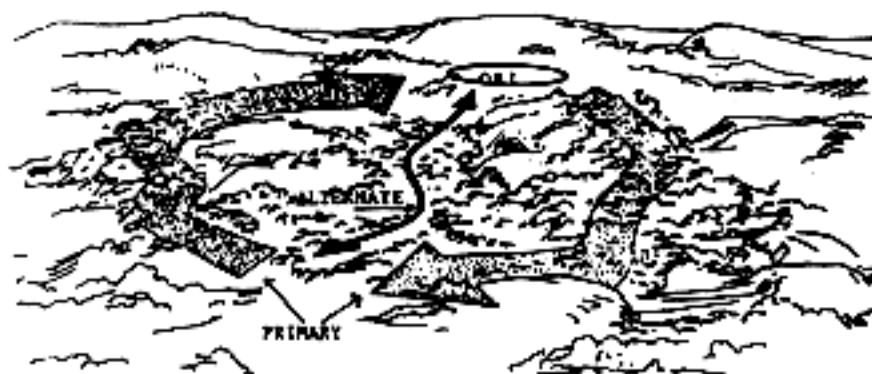

Figure 5-1. Primary and alternate routes.
(1) Essential and supporting tasks. The leader ensures that he has assigned all essential tasks to be performed on the objective, at rally points, at danger areas, at security or surveillance locations, along the route(s), and at passage lanes to a squad or fire team as appropriate.
(2) Key travel and execution times. The leader estimates time requirements for movement to the objective, leaders reconnaissance of the objective, establishment of security and surveillance, completion of all assigned tasks on the objective, movement to an objective rally point to debrief the unit, and return to and through friendly lines.
(3) Primary and alternate routes. The leader selects primary and alternate routes to and from the objective (figure 5-1). The return routes should differ from the routes to the objective.